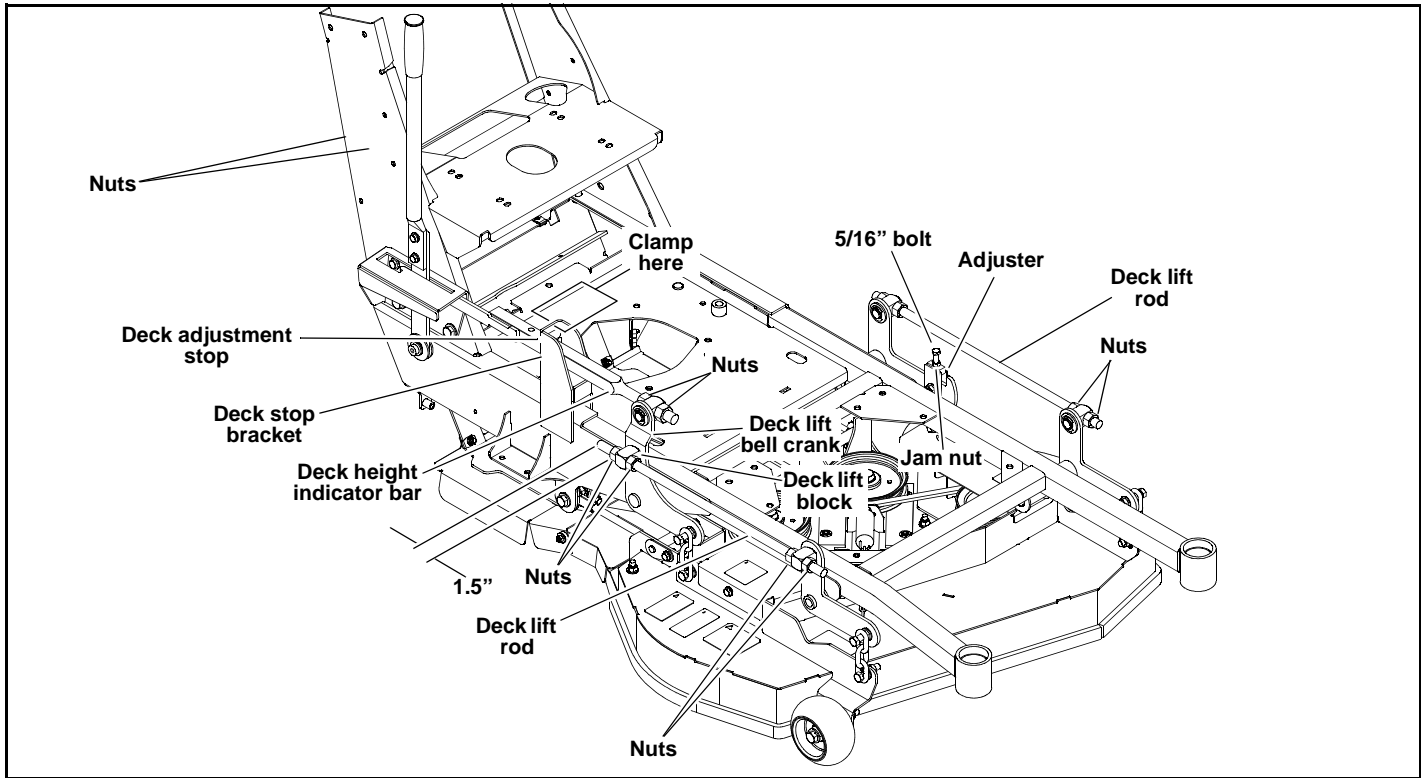

Figure 6-8
4. Place the height stop in the 3" (7.62cm) hole, with the flat side of the height adjusting stop against the deck stop bracket. Clamp the height adjusting stop against the deck stop bracket. This will assure that the height will not move during the setting process. Figure 6-8
- on all four blocks. Figure 6-8
6. Loosen the two nuts on the front of height indicator bar so that the bar has some play. Figure 6-8
8. Set the amount of threads protruding on the deck lift rod from the lift block at approximately 1.50" (left & right side). Figure 6-8
9. Jam both nuts against the block. Figure 6-8
10. Push or pull on the deck lift bell crank until the chain on the **right rear** just becomes tight, making sure that the deck stays tight against the deck support block. Figure 6-8
11. While keeping the chain tight, tighten the nuts against the deck lift block on the height indicator. Figure 6-8